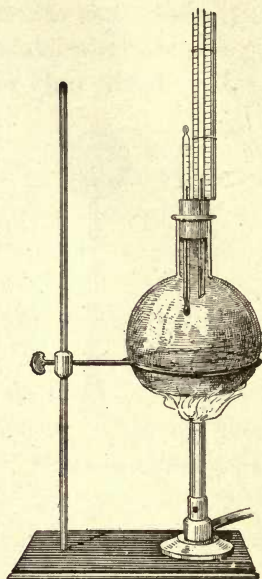

FIG. 115.—Expansion of Liquids.
**Experiment 34.** — Take a flask and fit it with a two-hole rubber stopper. Pass a glass tube about sixteen inches long through one hole of the stopper and a thermometer through the other hole. Fill the flask with water and place the stopper in the flask so that the water rises a fraction of an inch above the base of the stopper. Now heat the water slowly, noting temperatures and heights of the water in the tube. A scale may be improvised from an ordinary meter bar as shown in Figure 115. Draw a curve of the expansion.